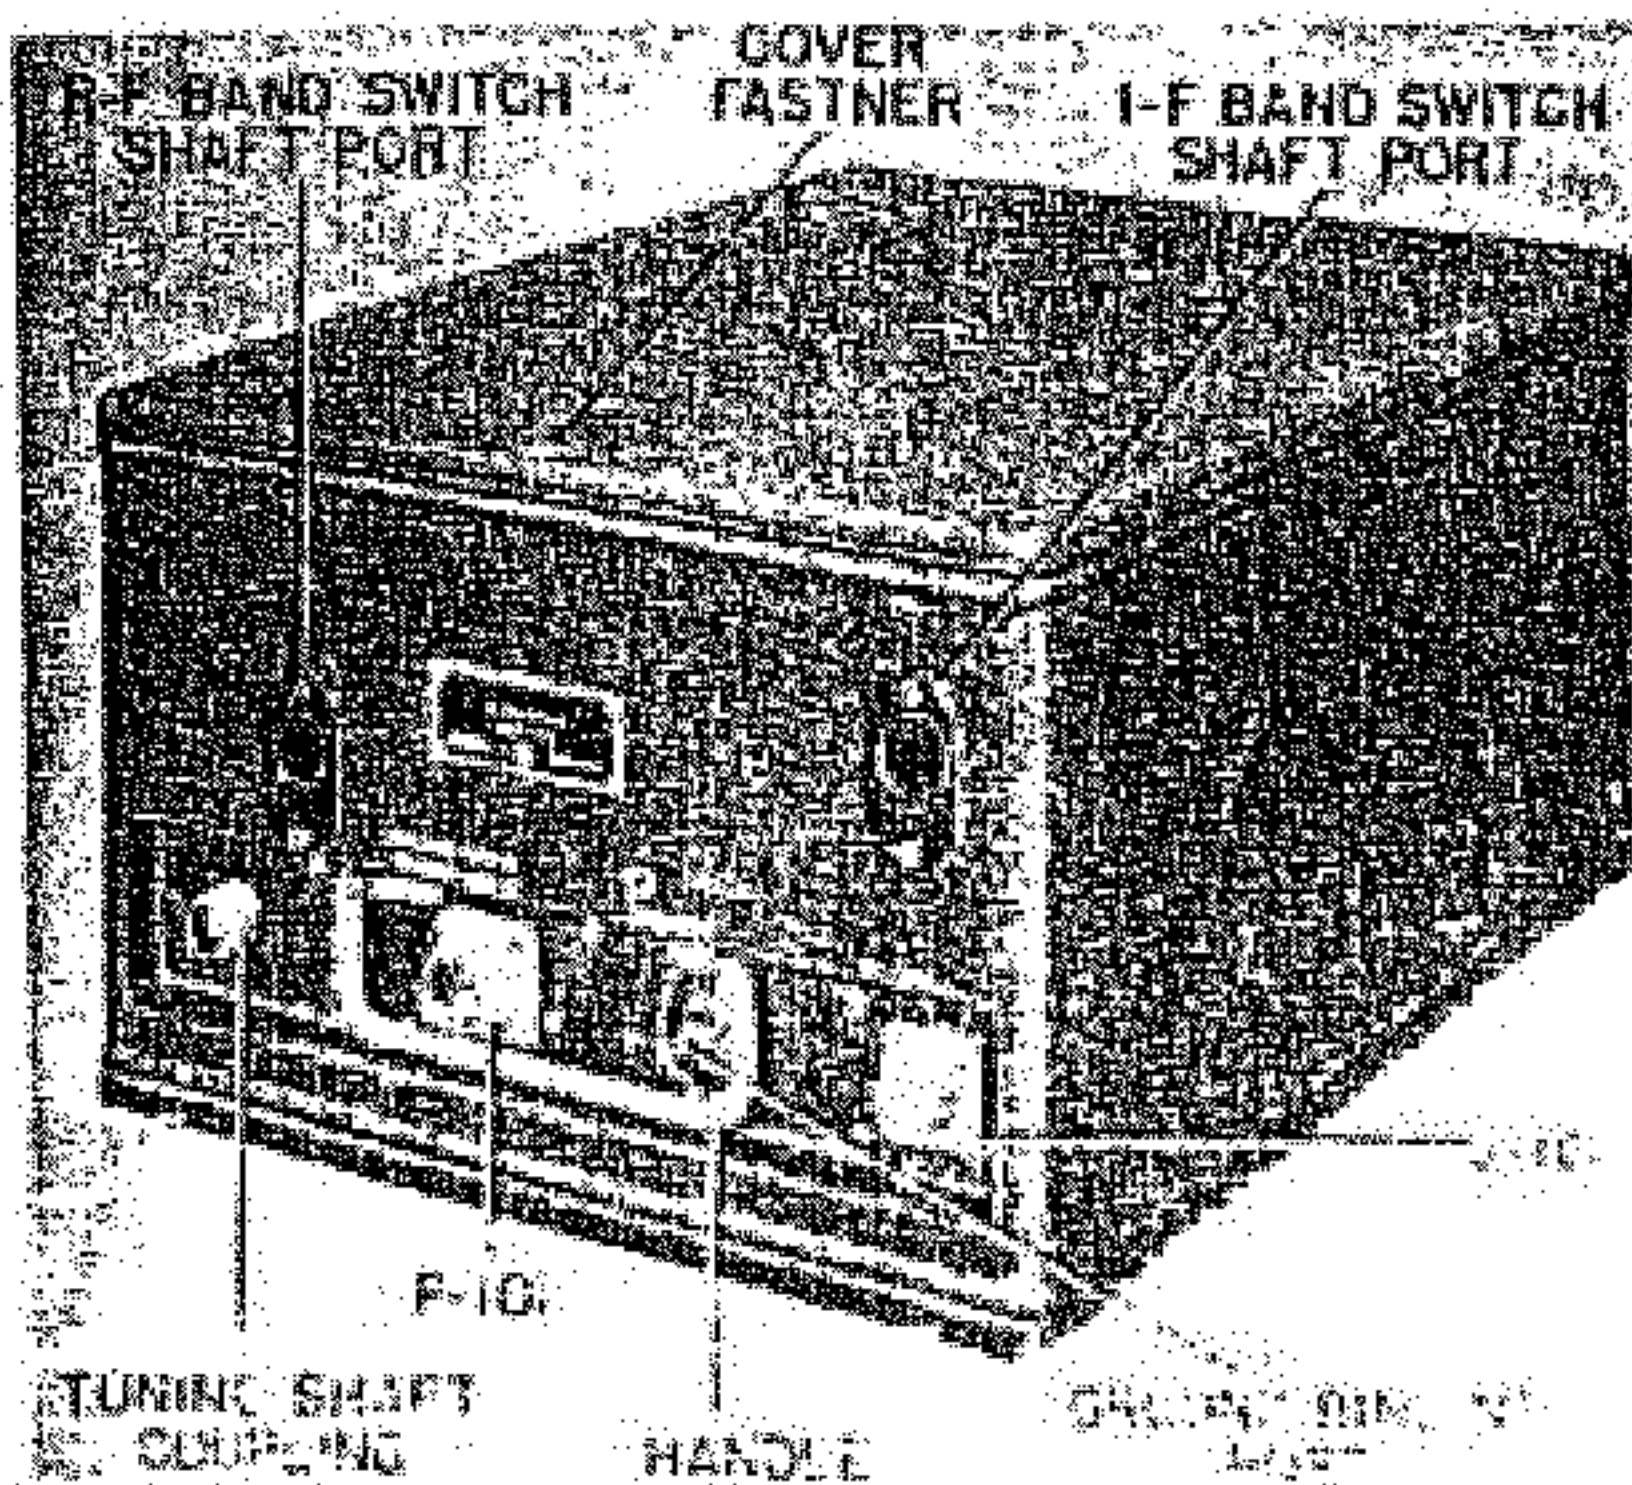
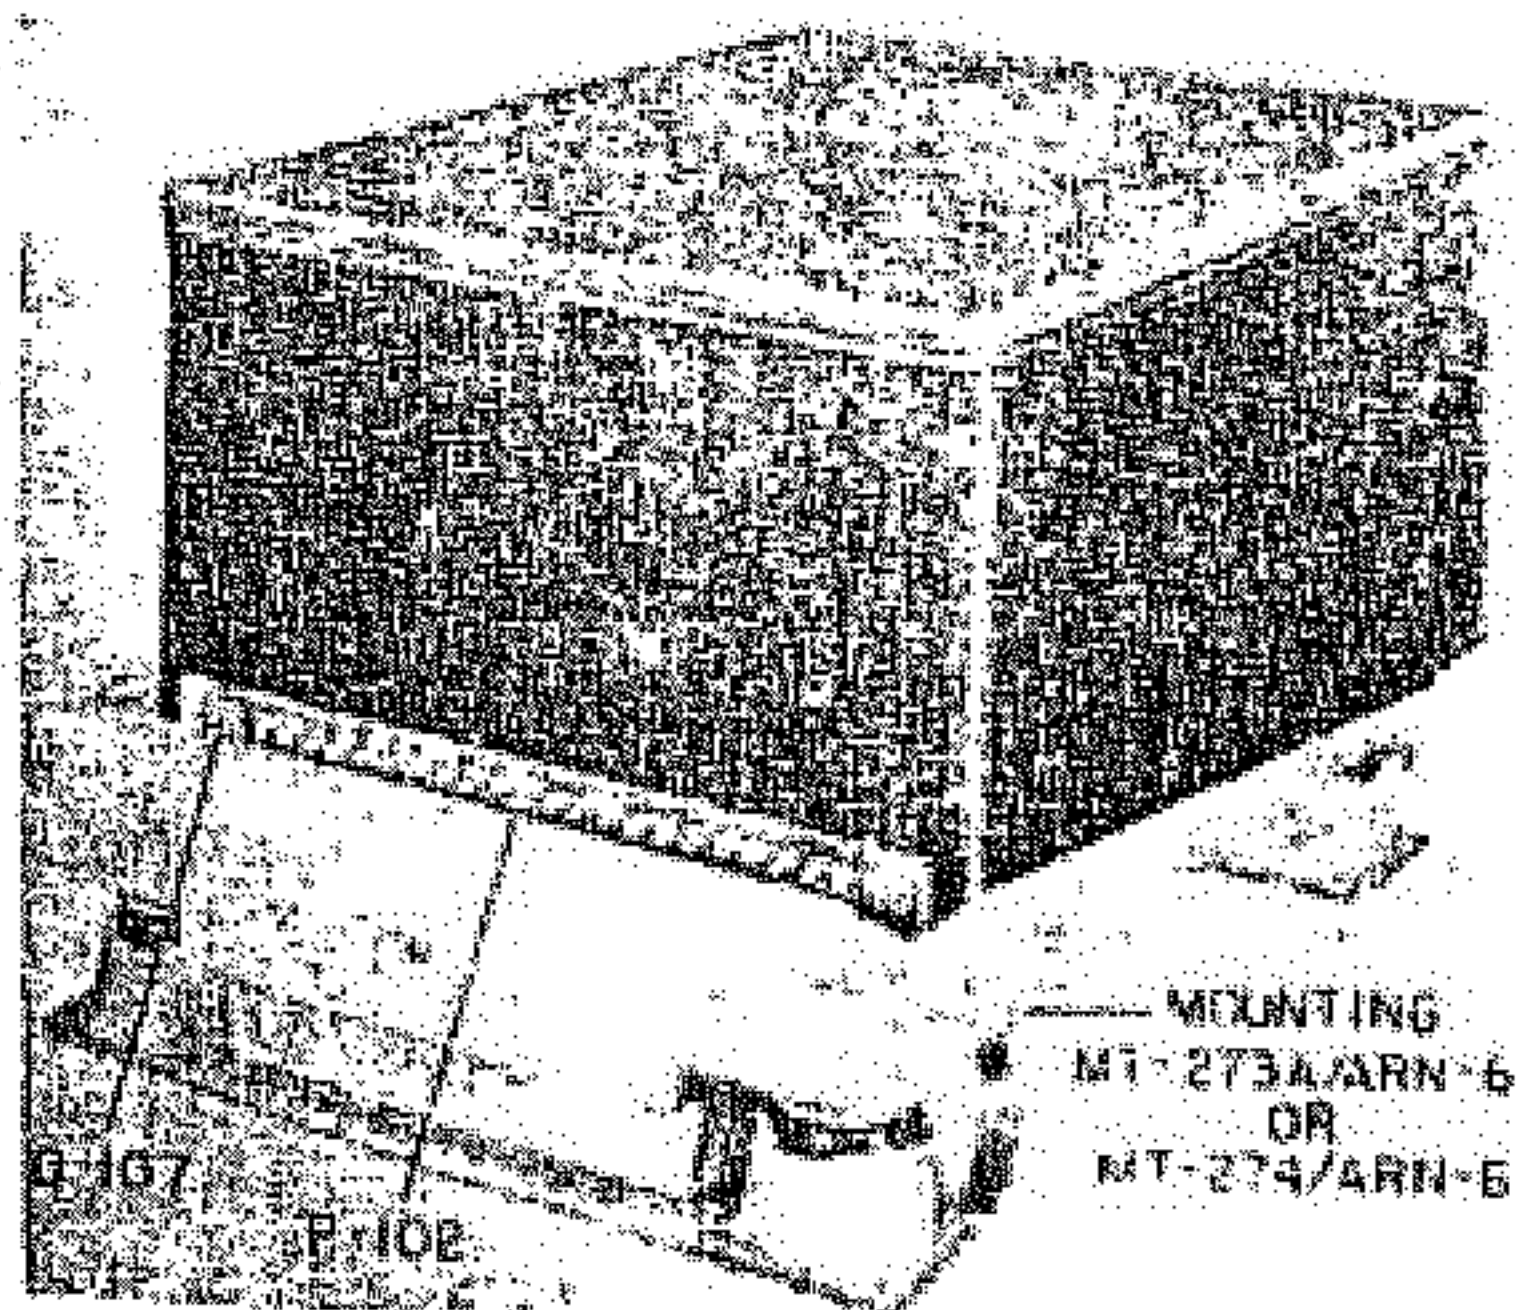

Figure 1-2. Radio Compass Unit R-101/ARN-6
Figure 1-3. Radio Compass Unit R-101/ARN-6
a. RADIO COMPASS UNIT R-101 ARN-6 AND R-101A ARN-6. (See figure 1-2.)—The radio compass unit is contained in a rectangular shaped aluminum housing with removable top and bottom covers. Attached to the top cover is a spare vibrator. A recess in the front panel contains the connectors for the loop cable and antenna transmission line, a "GROUND" binding post, the tuning shaft fitting, and a carrying handle. A recess in the rear panel contains a male contact connector strip which fits into a female connector strip in the mounting. (See figure 1-3.) Included within the radio compass unit are the circuit elements which make up the compass circuit, a superheterodyne receiver circuit, the automatic loop control circuit, the vibrator power supply circuit, and necessary circuits